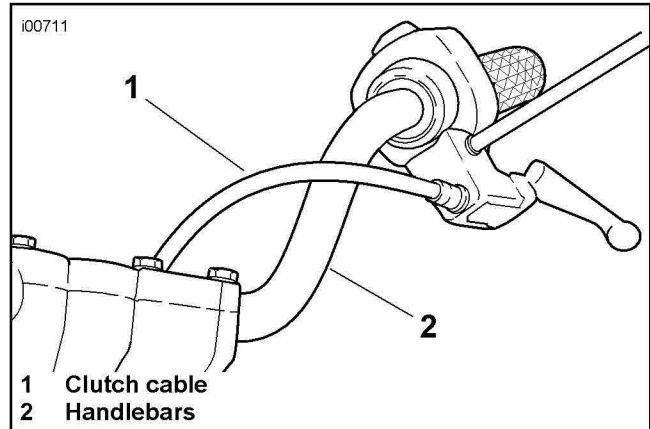

Figure 1. New Clutch Cable Routing
1. See Figure 1. Relocate clutch cable (1) to the inside of the handlebars (2) as shown in illustration as follows:
- d. Reroute clutch cable to the inside of the handlebars as shown in Figure 1 and reconnect clutch cable to clutch lever by reversing Step c.